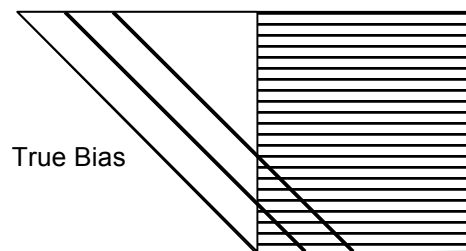

Figure 1
- Cut along drawn lines. (Figure 1)